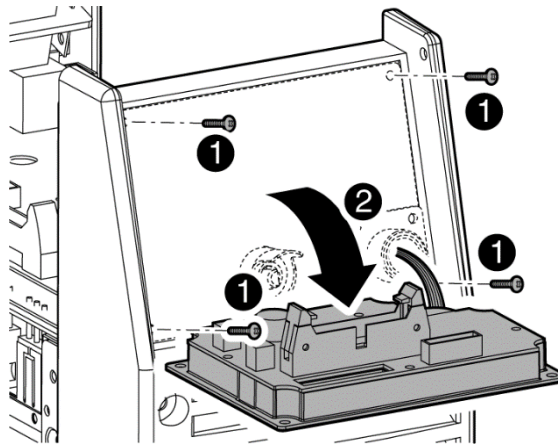

Figure 7-2 VRD ON/OFF Step B
B) Remove the front control cover assembly from the front panel (see Figure 7-2).
- Access the VRD control by gently prying back the front panel controls to reveal the VRD on/off potentiometer (see Figure 7-2).